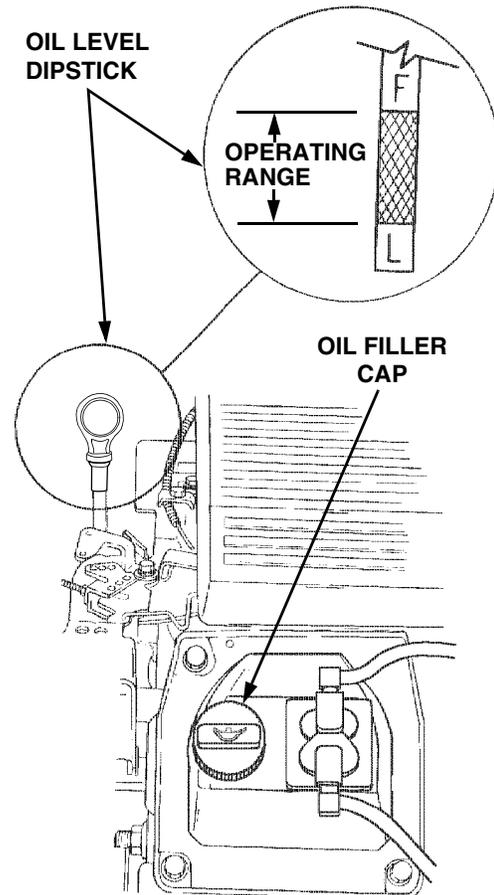

Figure 19
Regularly checking and maintaining the engine oil level in the crankcase cannot be overemphasized. Close monitoring of the oil level during the first 10 hours of operation is especially important. Referring to Figure 19, check the oil level **BEFORE EACH USE** as follows:
3. Remove the oil filler cap from the left valve cover and SLOWLY pour in oil. Fill the crankcase until the oil level reaches the "FULL" mark on the dipstick (Refer to Figure 19).
3. Remove the oil filler cap from the left valve cover and SLOWLY pour in oil. The oil capacity is approximately 4 pints. Fill the crankcase until the oil level reaches the "FULL" mark on the dipstick (Refer to Figure 19).